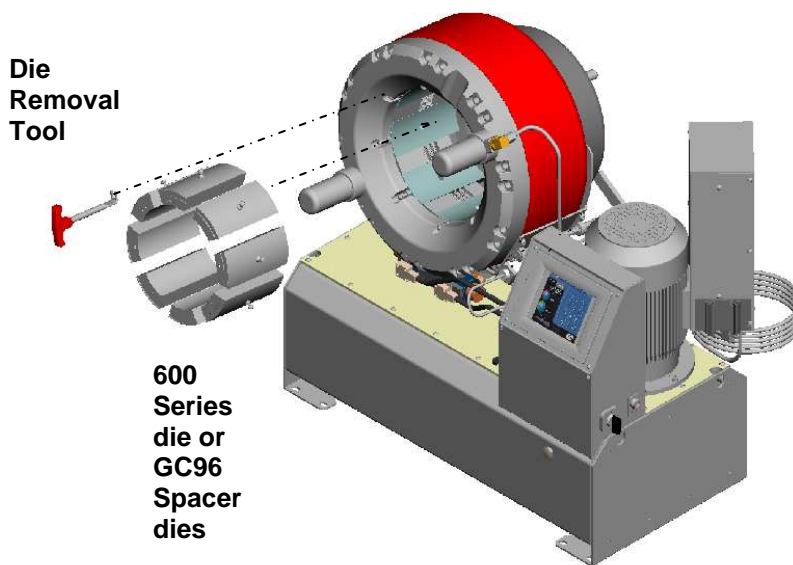

Fig. 1 Installing the 600 series dies into the GC96 head
A. Refer to Fig. 1. On the front of the GC96 crimper head, pull a die shoe locking pin out with the Die Removal Tool (Prod. No 7482-9181).